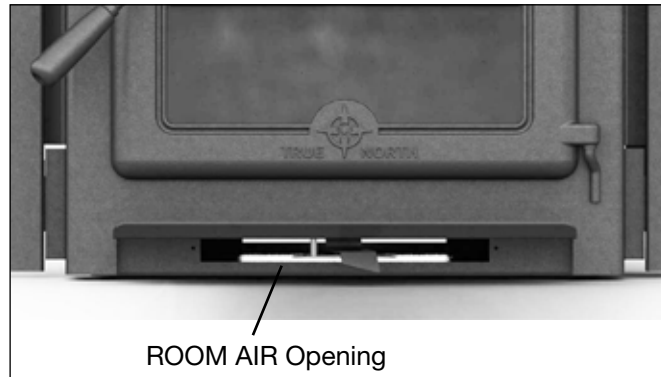
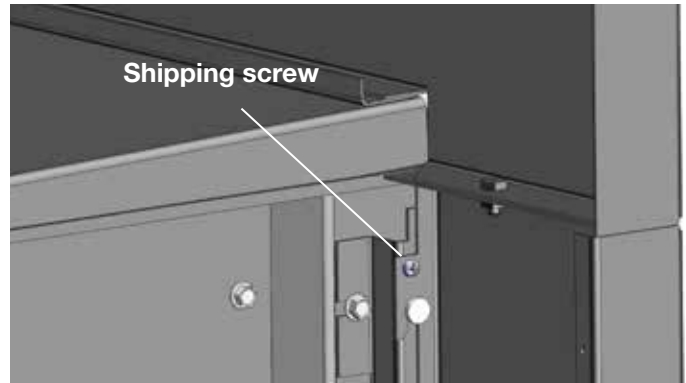

Figure10:room air opening.
Figure 12: TN20.INSA Shipping screw
1. Remove the shipping screws located at the top of each surround side panel (fig. 10). remove the two screws holding the Fan Controls on the side panel and remove the controls (fig.12). Lift to remove both panels from the unit.